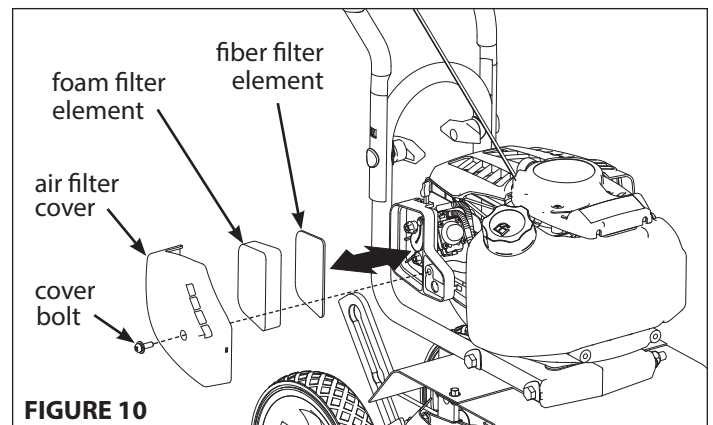

FIGURE 10
3. Remove the foam filter and fiber filter elements. Replace with a new fiber filter and a new oiled foam filter (**SEE FIGURE 10**), or clean the original foam and fiber filters with warm water and mild soap. Remember to thoroughly oil the foam filter with 30 or 40 weight motor oil and squeeze out any excess oil before reinstalling it. Make sure to press the foam filter evenly into place over the fiber filter to ensure that the foam is fully seated into its sealed position.